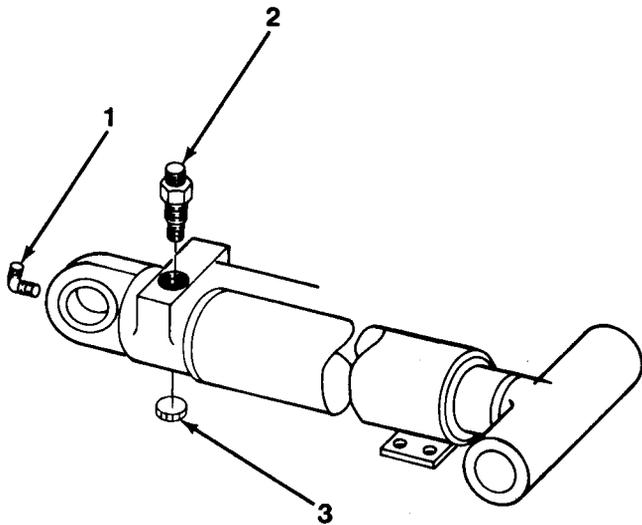
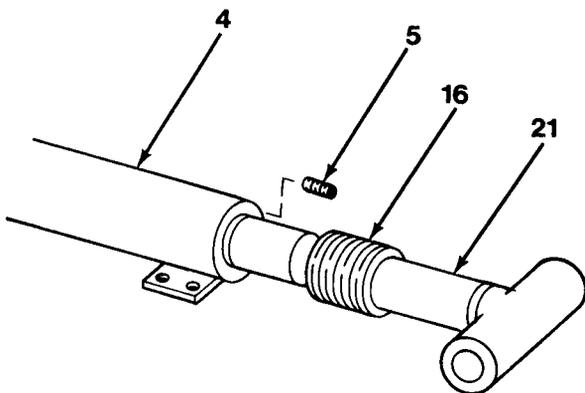

Figure 13-1
Figure 13-2
1. Remove grease zerker (1, Figure 13-1).
2. Position suitable container under counterbalance valve (2) area and remove counterbalance valve (2) and plug (3).
3. Pull rod assembly (21) half way out of cylinder case (4, Figure 13-2).
4. Place support under outer end of rod assembly (21).